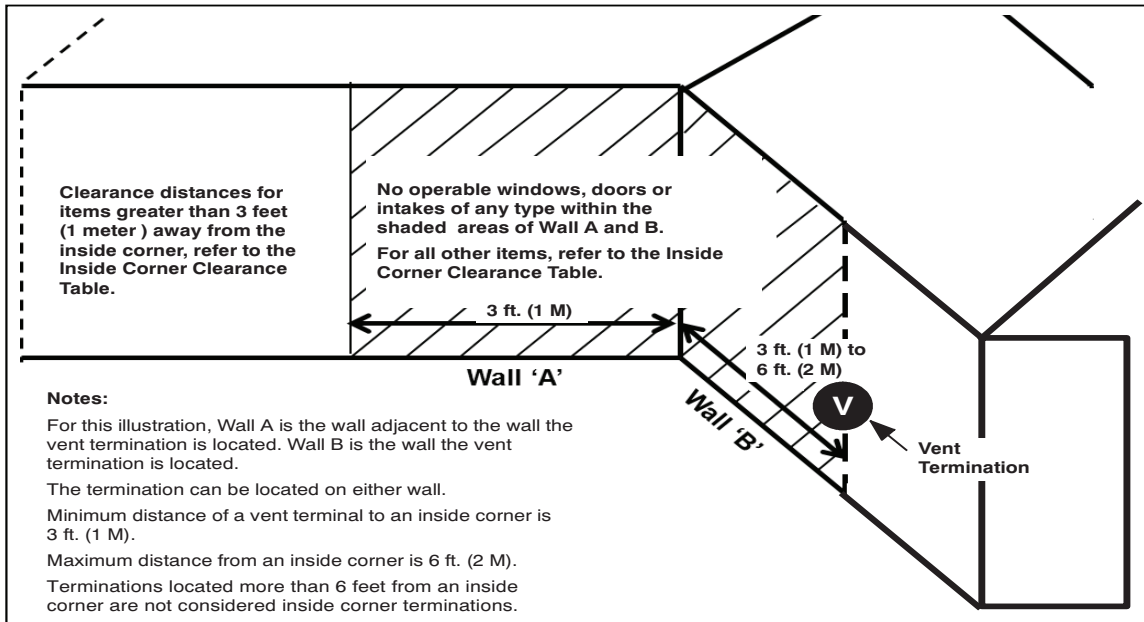

Fig. 43 – Inside Corner Termination
2. The vent termination must be located at least 3 feet from an inside corner and follow the clearance distances in the Inside Corner Termination drawing. See Fig. 43.